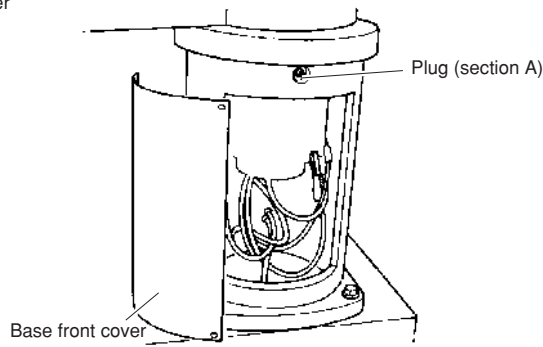

Fig. 5-28
- 8) Remove the plug on the front (section A) of the robot base and attach the grease nipple (A-MT8×1) there. (See Fig. 5-28.) Keep the removed plug, as it will be used after replenishing grease.